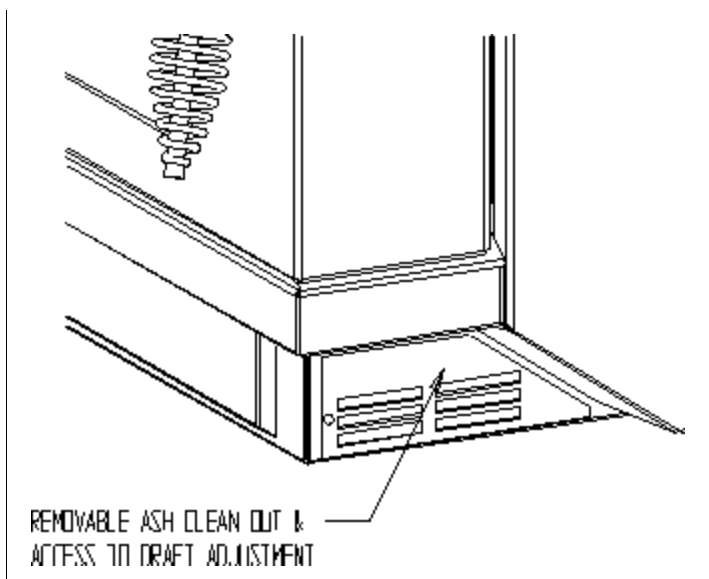

Figure 16 Plenum Clean Out & Draft Adjustment
8. Plenum clean out & draft adjustment: Access to clean under the burn pot is through the plenum clean out plates on right or left side low front (**Figure 16**). Remove the fastener and plate and vacuum out ash accumulations. Additionally, the draft plate is accessible through this opening and maybe turned with a long standard screw driver clockwise to reduce the draft through the burn pot. This adjustment is made generally only during installation.